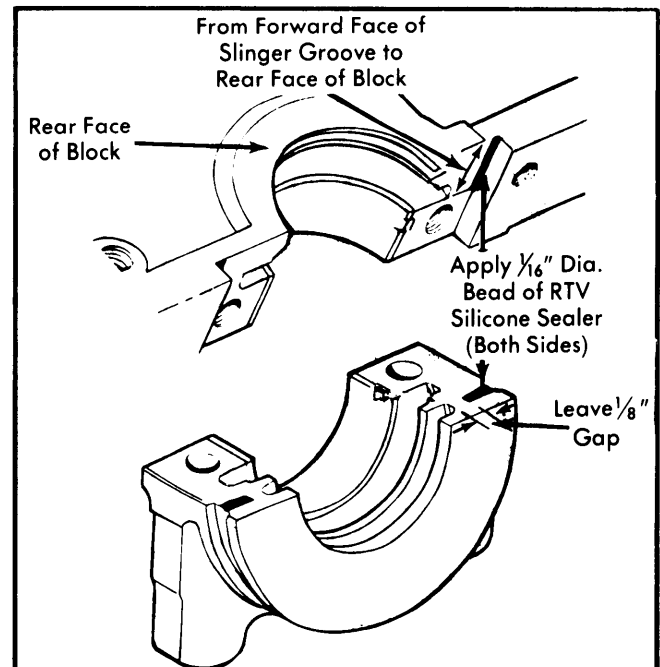

Fig. 15 Applying Sealer to Main Bearing Cap and Block
3) Apply suitable RTV silicone sealer to areas shown in illustration (Fig. 15). Install bearing cap. Tighten bolts to specification.